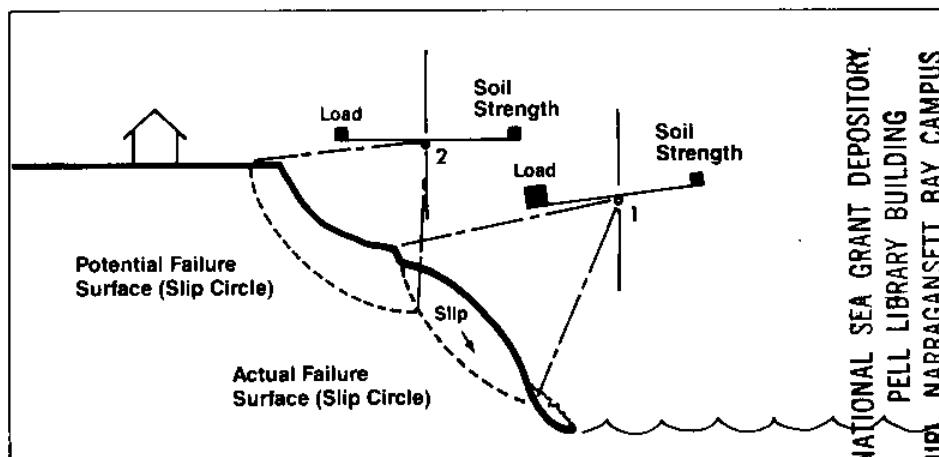

FIGURE 1: Actual and Potential Bluff Failure Surfaces
Typically, a bluff will fail along a failure surface, or "slip circle" (see Figure 1).
*There is no simple way to determine where the centers of failure (points 1 and 2 in Figure 1) are located.* Evidence of impending failure may not be visible on the bluff face or bluff top. In cases where bluff failure from the improper placement of fill would cause loss or severe damage to bluff top structures, a registered civil or geotechnical engineer should be consulted. The following information is intended to help you understand the risk to bluff stability, and the general solution to the problem of how to safely use fill to improve bluff stability.